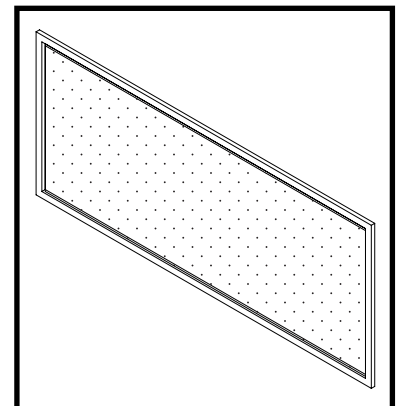

Figure 66: TCWS54 Safety barrier screen.
- Attach the magnetic safety barrier screen (Figure 66) to the outer-most door frame.
The air shutter on the burner tube controls the primary combustion air. It is set to the closed position at the factory for natural gas fuel. For LP . Some adjustment may be necessary to obtain desired flame and to eliminate carbon deposits. Evaluate flame appearance after the fireplace has reached operating temperature. See Figure 66 for proper flame pattern.